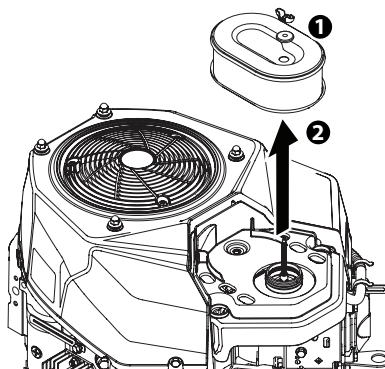

Figure 6-5
4. Pull up and remove air filter and base seal. See Figure 6-5.